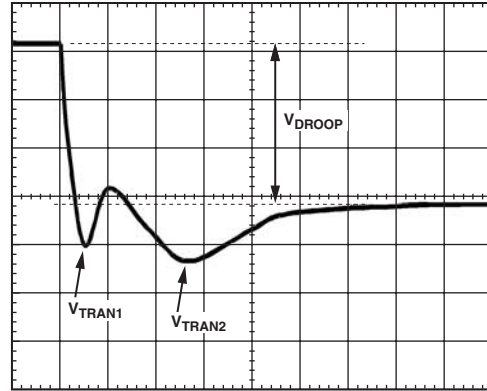
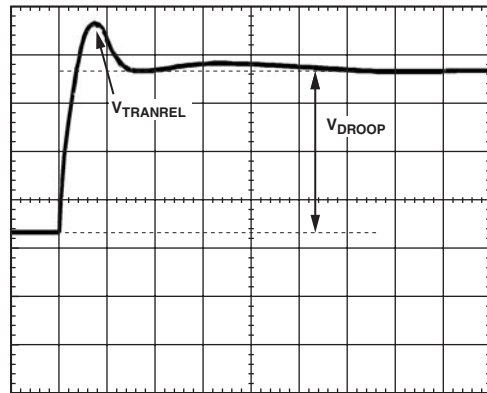

Figure 9. Transient Setting Waveform
Figure 10. Transient Setting Waveform
19. With dynamic load still set at maximum step size, expand scope time scale to see 2  $\mu$ s/div to 5  $\mu$ s/div. You will see a waveform that may have two overshoots and one minor undershoot (see Figure 9). Here,  $V_{DROOP}$  is the final desired value.
21. For load release (see Figure 10), if  $V_{TRANREL}$  is larger than  $V_{TRAN1}$  (see Figure 9), you do not have enough output capacitance. You will either need more capacitance or to make the inductor values smaller (if you change inductors, you need to start the design over using the spreadsheet and this tuning procedure).